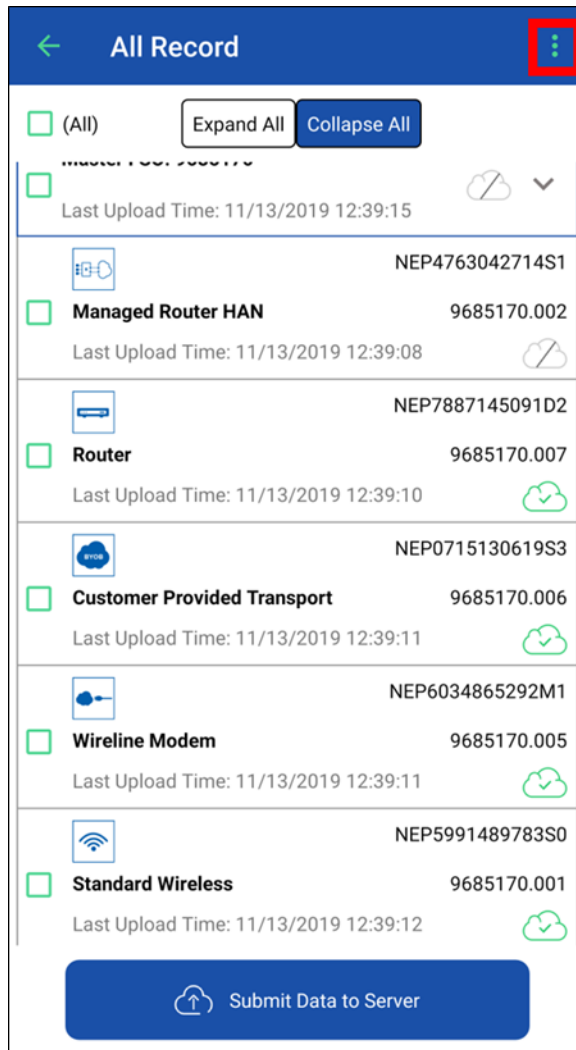

Figure 102: All Records page
3. Tap the three green dots on the top-right of the screen (outlined in Figure 102).